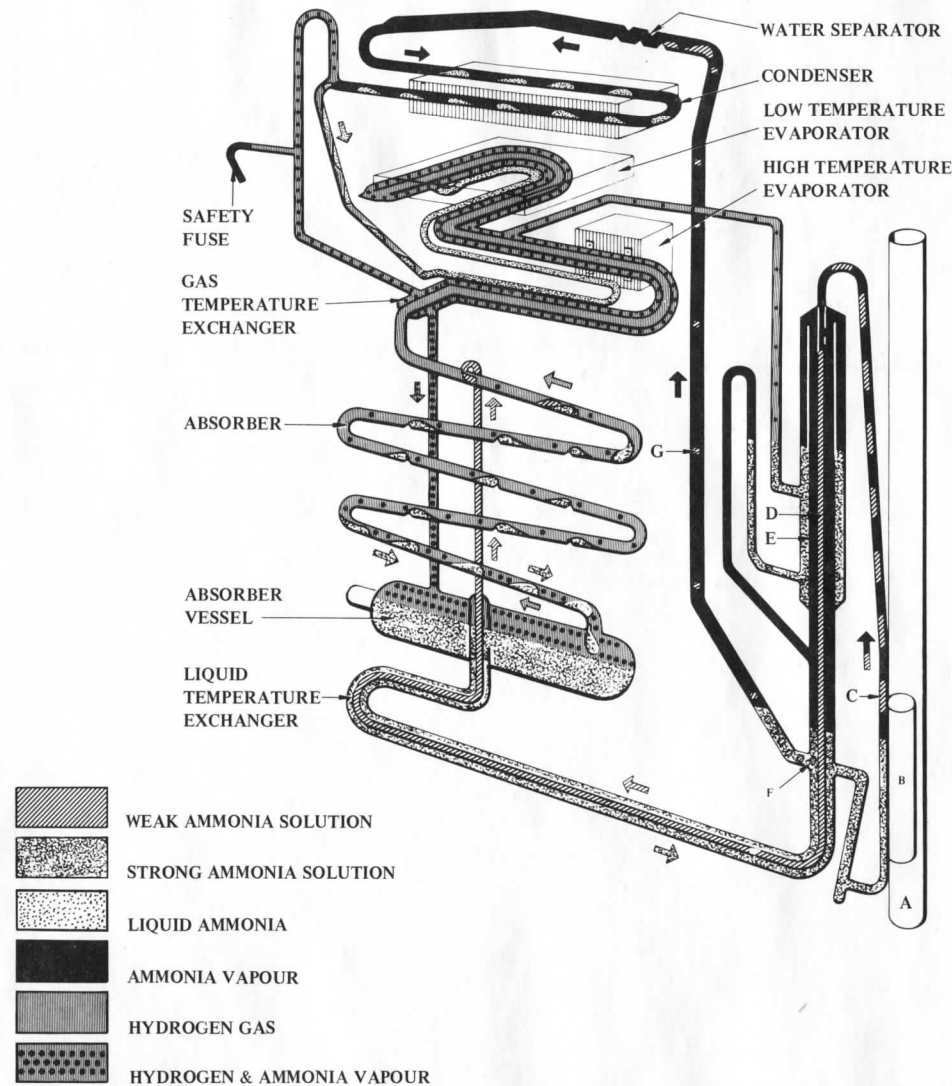

Fig. 11
The unit, (see fig.11) consists of four main parts – the boiler, condenser, evaporator and absorber. Further, this unit is provided with an automatic defrosting device (see fig.12).
The unit (in fig.11) can be run on either electricity or L.P.G. When the unit operates on L.P.G. the heat is supplied by a burner which is fitted underneath the central tube (A) and when the unit operates on electricity the heat is supplied by a heating element inserted in the pocket (B).
The absorption unit shown in Fig. 11 incorporates a unique, fully automatic defrosting device for the general food storage compartment, which eliminates the necessity for manual defrosting at frequent intervals normally associated with most conventional refrigerators. Furthermore, the time interval of each defrosting cycle, and the frequency, have been so arranged that during defrosting there is no noticeable effect upon the temperature of the foods stored in the refrigerator, and frozen food storage conditions can be maintained at all times in the frozen storage compartment.